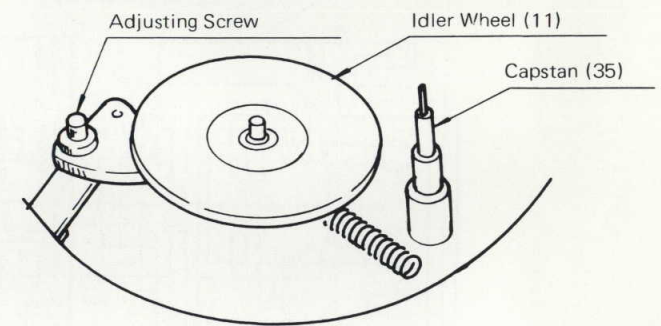

Fig. 21
Adjust Idler Wheel (11) Height as shown in Fig. 21.